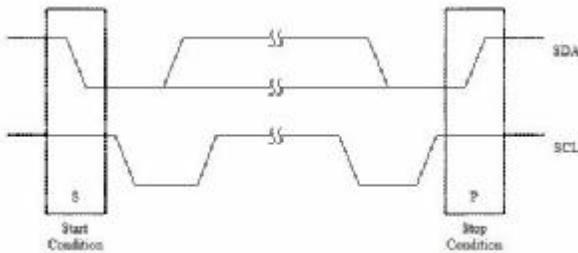

Figure 2.1 Start and Stop conditions
- | Start and stop condition : A high to low transition of the SDA line while SCL is high defines a start condition. A low to high transition of the SDA line while SCL is high defines a stop condition. Please refer to Figure 2.1.